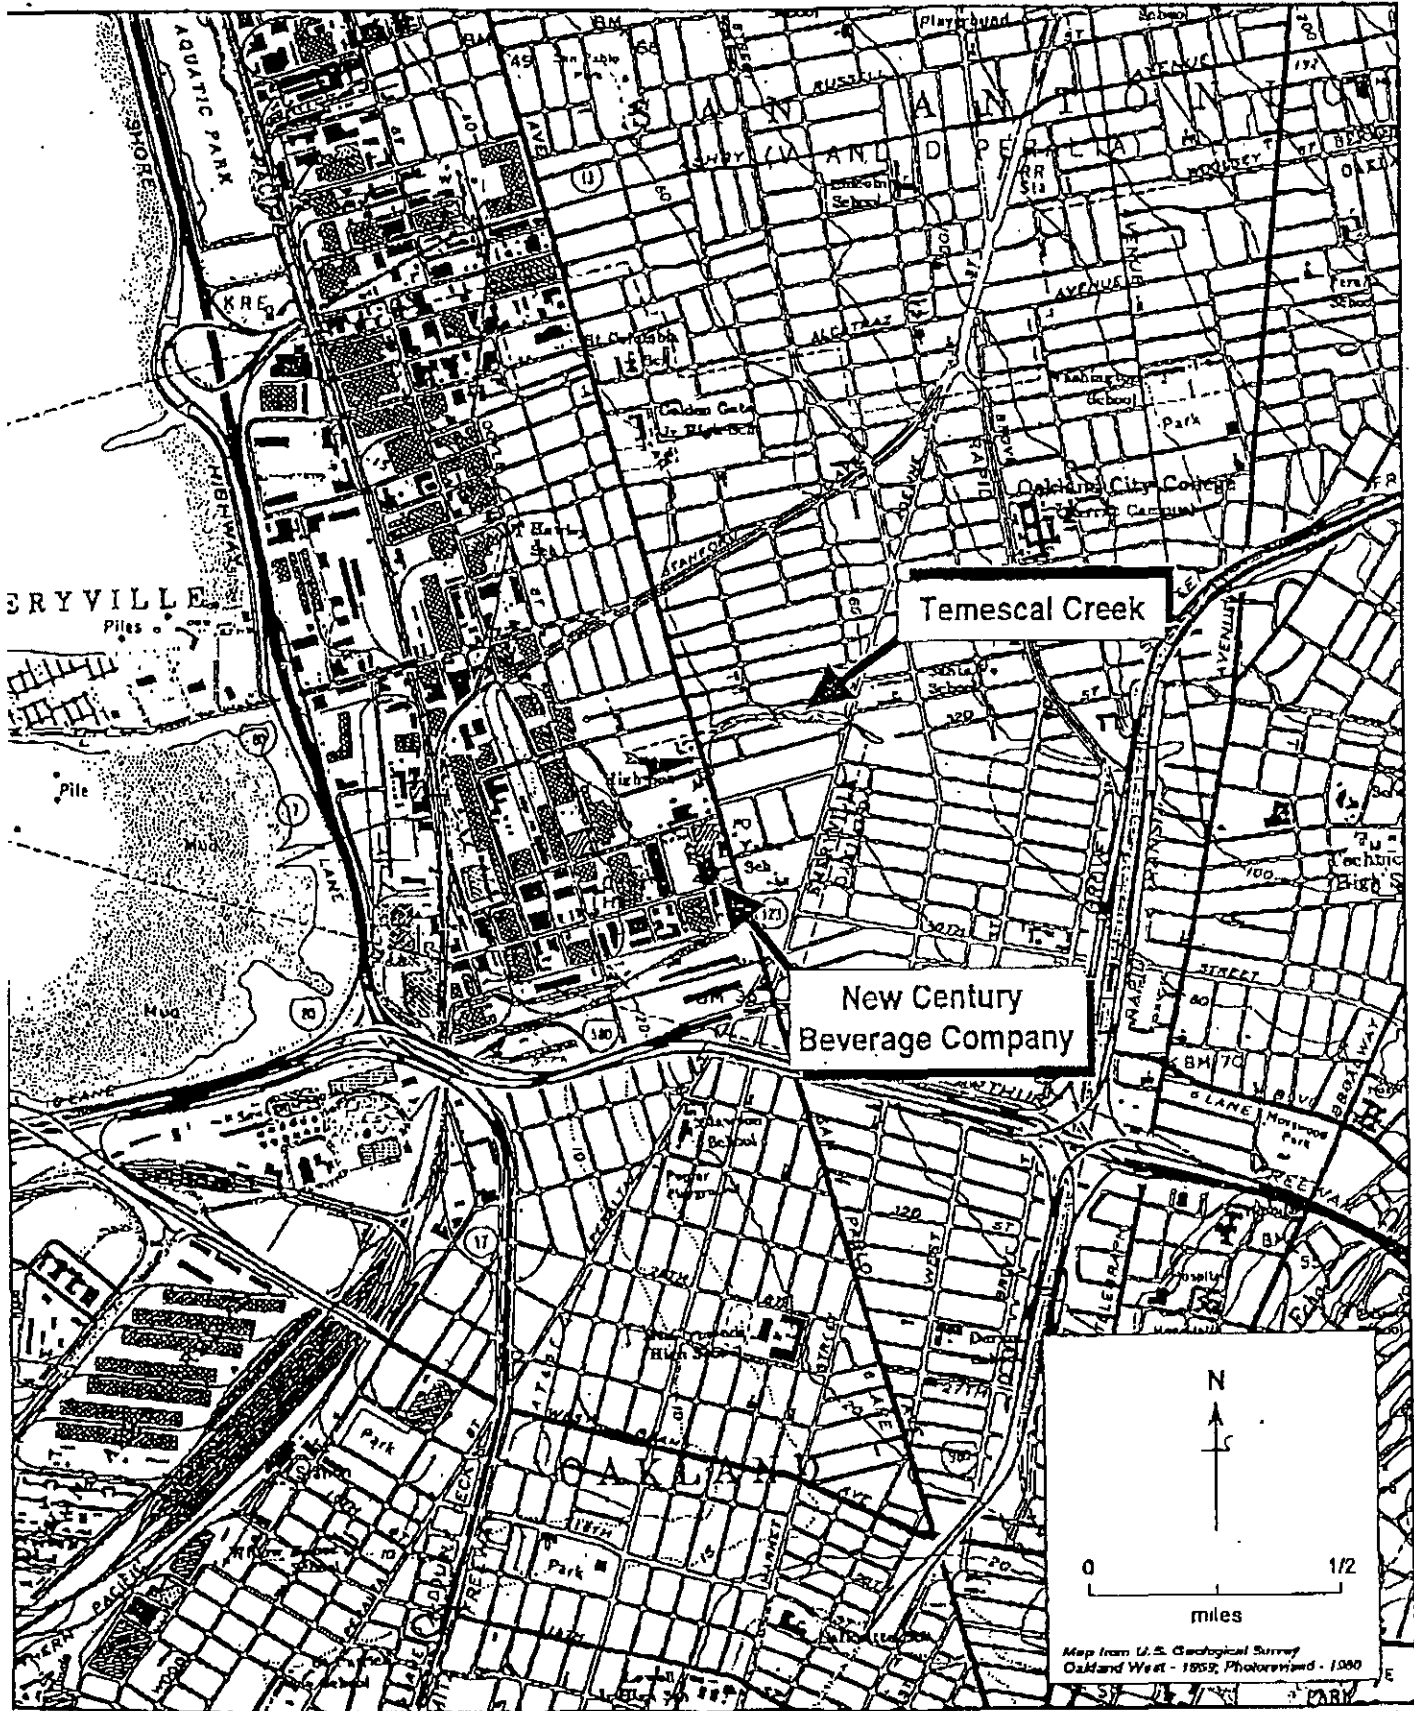

Figure 1. Site Vicinity Map - New Century Beverage Company, 1150 Park Avenue, Emeryville, California
On behalf of New Century Beverage Company, Weiss Associates (WA) has prepared this workplan to conduct additional subsurface investigation at the New Century Beverage Canning Plant referenced above (Figure 1). This workplan was requested verbally by you on November 27, 1995, after we informed you that our client wishes to further characterize the area surrounding the former diesel tank located at the southwest corner of the site (Figure 2).
New Century canning operations have been conducted under at least two ownerships on the subject property since the mid 1950s. It is our understanding that the site was previously occupied by a baseball diamond used by a semi-professional team. The subject property is part of the site for a proposed development by Kaiser Permanente to construct a hospital/medical center that will occupy the New Century plant site and contiguous sites. WA conducted a subsurface investigation of the site in March and April 1994, and reported evidence of ground water contamination in four areas to the County on July 25, 1994. Two of the areas of contamination are the result of New Century's UST operations (Plumes I and II, as shown on Figure 1), while the other two areas appear to be from upgradient, off-site sources (Plumes III and IV).
Enclosures: Figure 1 Site Location Map